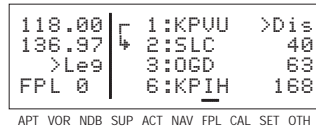

Figure 4-122
- The active leg of the flight plan is designated with a **↵** symbol. A leg is defined as the course line between a pair of waypoint (a “from” waypoint and a “to” waypoint). The head of the arrow is positioned to the left of and points to the active “to” waypoint. In figure 4-122, SLC (Salt Lake City VOR) is the “to” waypoint. The tail of the **↵** symbol is positioned to the left of the “from” waypoint. KPVV (Provo Municipal) is the “from” waypoint in figure 4-122. The **↵** symbol is not displayed unless the KLX 135 is actually receiving GPS signals suitable for navigation. (**Note:** If the unit is in the take-home mode, it has been “tricked” into thinking it is receiving signals and therefore the **↵** symbol can be displayed).